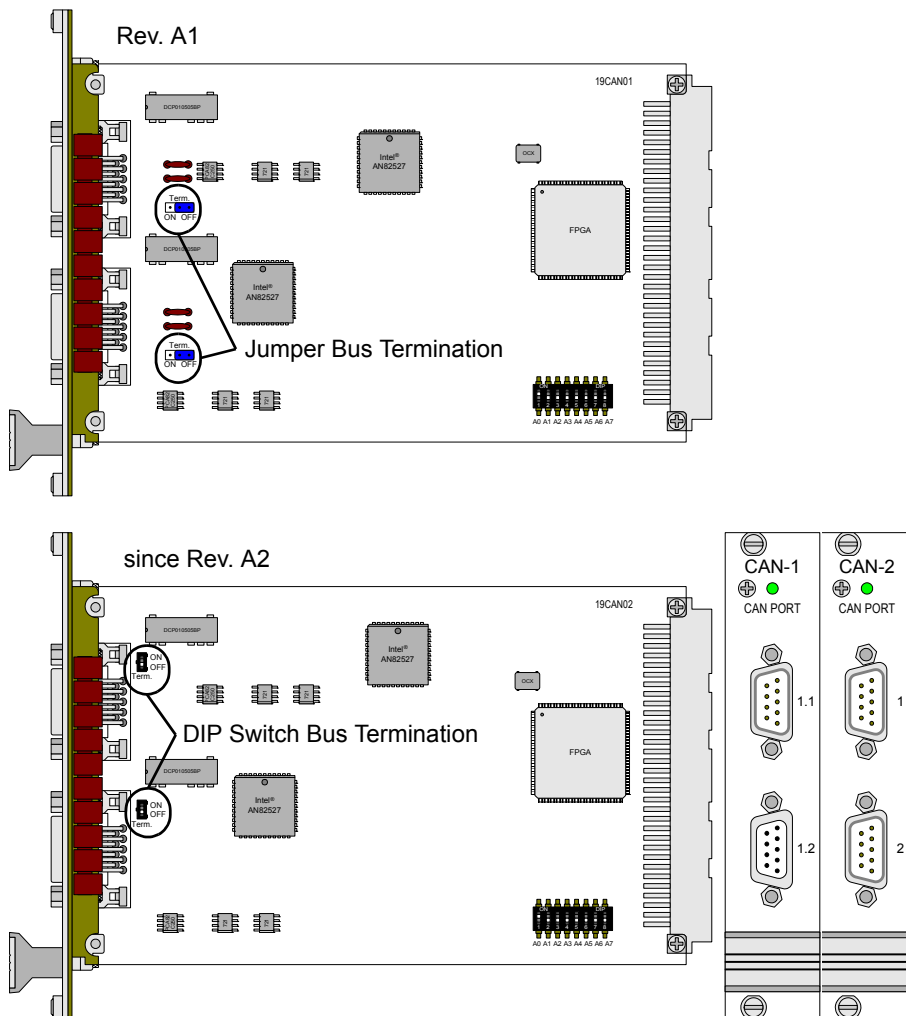

Fig. 303 – Pro-CAN-1/-2: PCB and front panels
If the CAN module functions as the physical termination of a high-speed CAN bus, it must be terminated with a 120Ω resistor (only the first or the last CAN node). If a termination is necessary, move the DIP switch (Rev. A2, see fig. 303) upward; when using the module revision A1 set the jumper to the left position (ON). CAN nodes, which are not positioned in an end-location, must not be terminated.